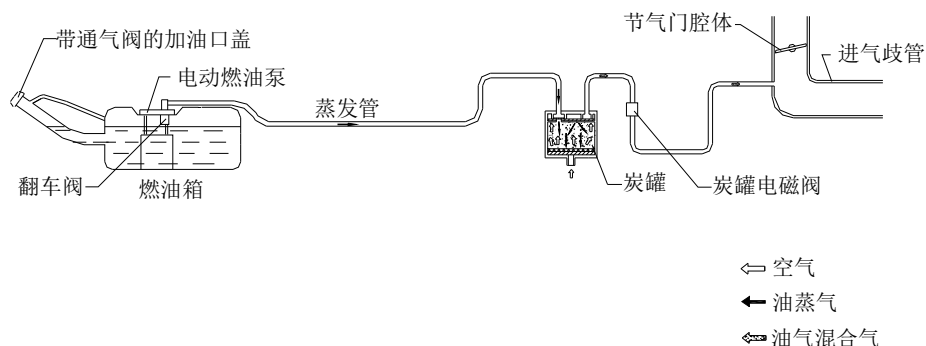

Fig.5-3
The principle is shown in figure 5-3. This system serves to reduce the amount of fuel evaporative emission (HC) to be released into the atmosphere. The vapor generated in the fuel tank while driving or the engine at a stop enters the charcoal canister where the charcoal absorbs and stores the fuel vapor. While the engine is running, the canister electromagnetic valve is opened depending on